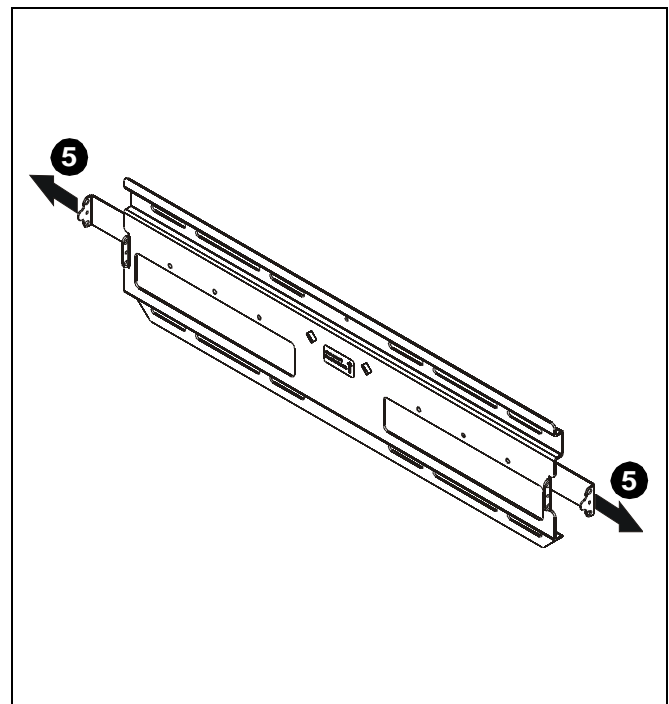

Figure 3
5. Slide the latches on the wall mount to the outside in preparation for installing display. (See Figure 3)